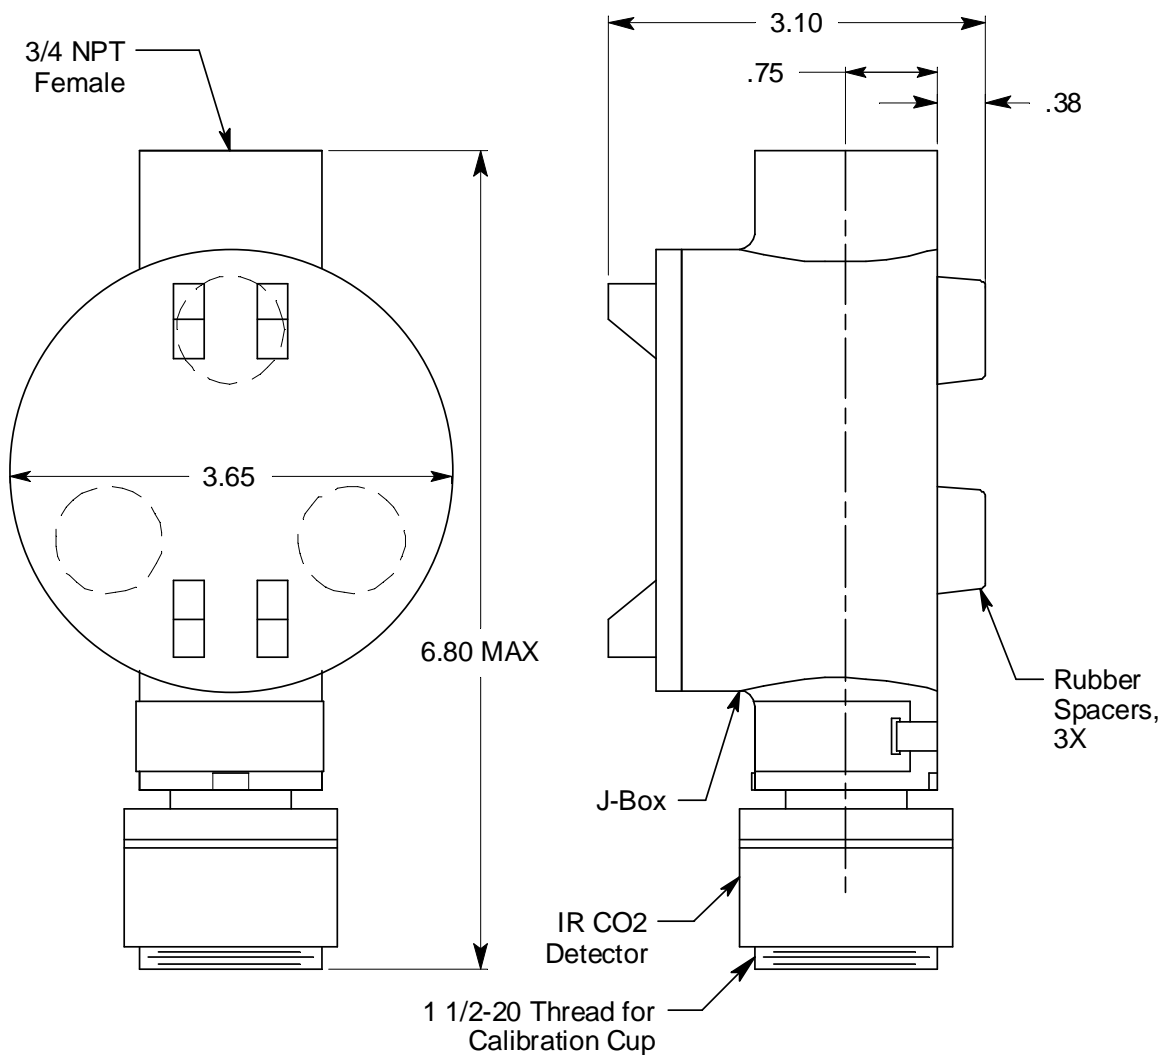

Figure 3: Mounting the CO₂ Transmitter
2. At the monitoring site you select, hang or mount the junction box with the detector facing down (see Figure 3).